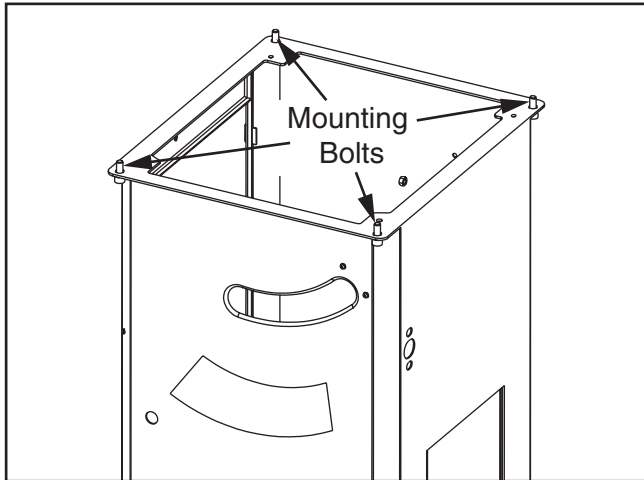

Figure 109. Location of table mounting bolts (table omitted for clarity).
- Loosen (4) table mounting bolts securing table top to base (see **Figure 109**), and lightly tap table in direction needed to square table to blade.